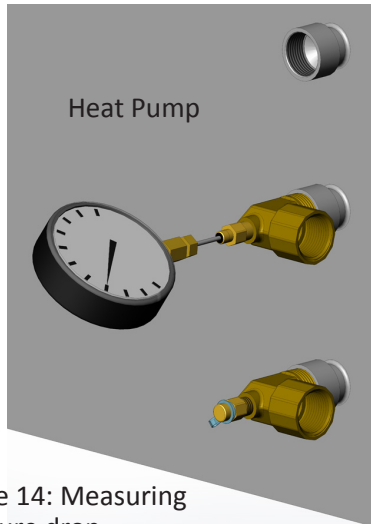

Figure 14: Measuring pressure drop
1. Measure the pressure drop across the heat pump's heat exchanger via the PT ports located at the water connections of the unit (Figure 14). Use a single large dial face pressure gauge to allow for more precise measurement.